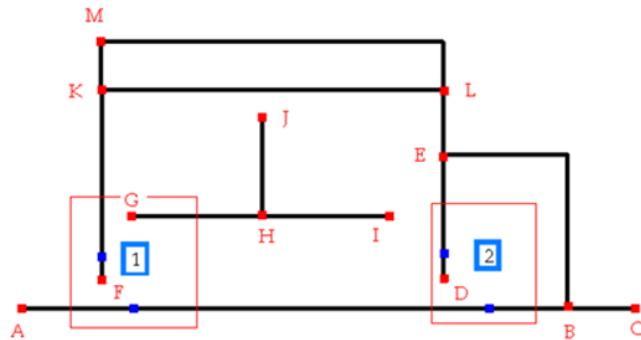

Figure 30: Tail Ranges and Entry/Exit points
- **Allow Cables to enter from the Cableway straight feature** - Allows cables to enter from a cableway straight feature. If this option is selected and the maximum equipment tail range is as indicated by the red boxes shown in Figure 30: the blue dots represent the automatically selected possible entry/exit points on each cableway of network.